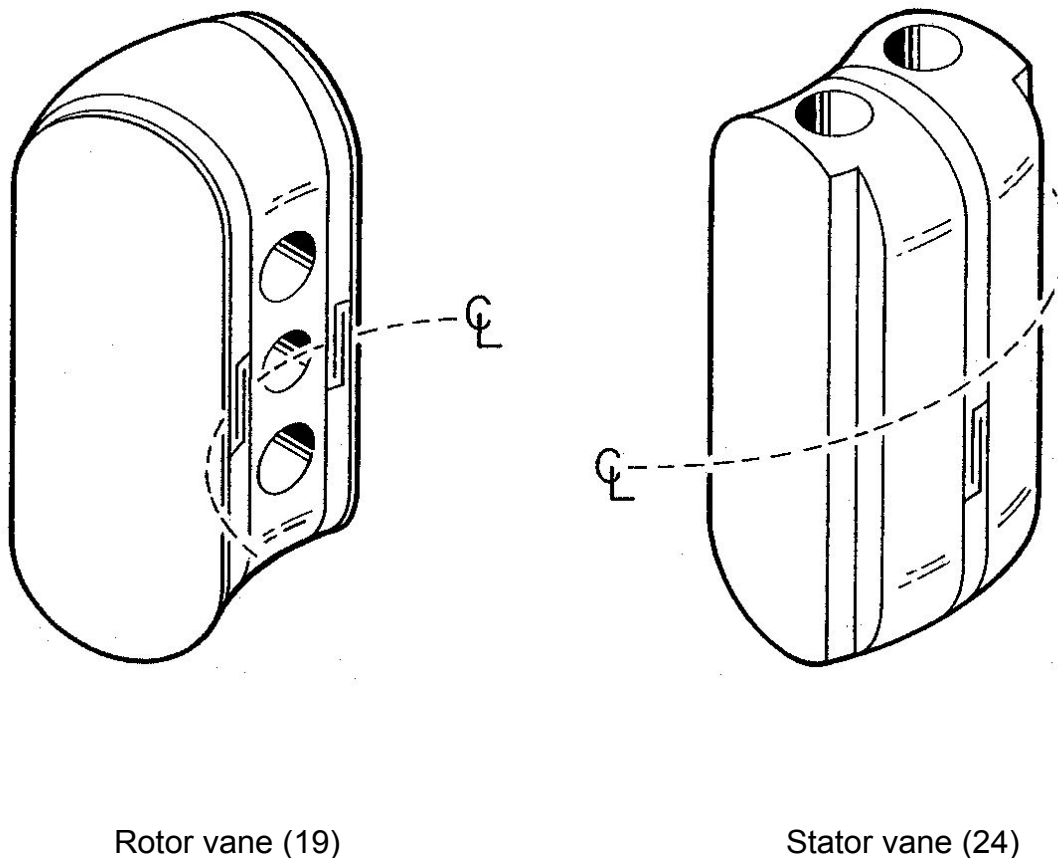

Figure 4-1 Location of expanding cut in seal
1. Install both hollow hex plugs (3) in mounting plate (2).
2. Place mounting plate (2) on a clean flat surface. Inspect seal area for nicks and scratches.
3. Inspect groove of seal ring (6) for cleanliness.
4. Install seal (4) into the groove of seal ring (6). The seal must be seated correctly without twisting or spiraling.
5. Apply a light coating of Lubriplate grease to the chamfer of mounting plate (2).
6. Firmly and slowly push seal ring (6) over hub of mounting plate (2) with a twisting motion. The screw hole counterbores in seal ring (6) must be down. Rotate the seal ring to align any two screw holes in the seal ring with the screw access holes in the mounting plate.
7. Bearing (7) is a precision bearing and should be handled with care. Inject Lubriplate grease through the injection holes in the outer race of the bearing using an 18 gauge grease injector needle. Carefully (line to line fit) slip bearing (7) over hub of mounting plate (2).
8. Set coupling (8) in place with two drilled holes aligned to the front and rear of the mounting plate. Secure coupling using fasteners (10). Tighten all screws in an alternating pattern to 75 inch lbs.
9. Install O-rings (16) into grooves of both rotor vane (19) and stator vane (24). Install vane seals (15) in the seal grooves of both vane (19) and vane (24) with the expanding cut in the seal located as shown in Figure 4-1. Attach vane (19) to shaft (14) using dowel pins (39), and fastener (17). Mark the spline tooth directly opposite the vane with a black ink marker.